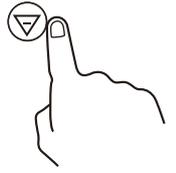

fig.3
- Select the heat level required (1-9) by using the up and down buttons (fig. 3). By holding down either of these buttons, the value on the heat level display will adjust up or down.
- Select the cooking zone (fig. 2) and heat level (fig. 3).